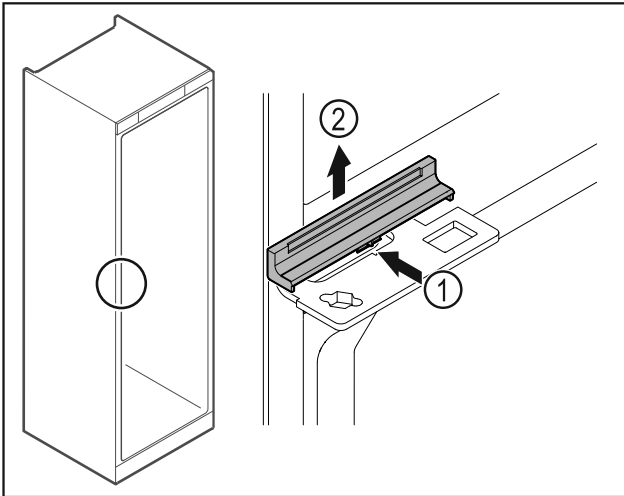

Fig. 50
- ▶ Gently press the middle of the cover Fig. 50 (1) and lift it off Fig. 50 (2).